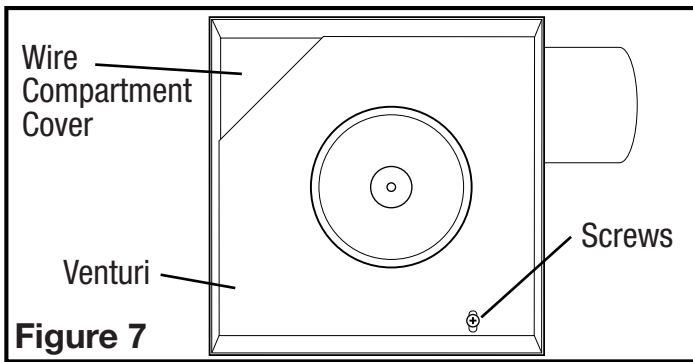
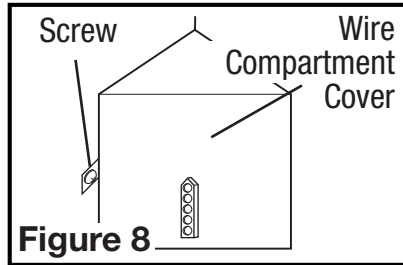

Figure 7
Figure 8
- Internal Wire Compartment:** Remove the screw holding the venturi in place. Lift the venturi up and at an angle to slide it out of the housing (**Figure 7**). Remove the wire compartment cover screw and place the cover in a secure place (**Figure 8**).